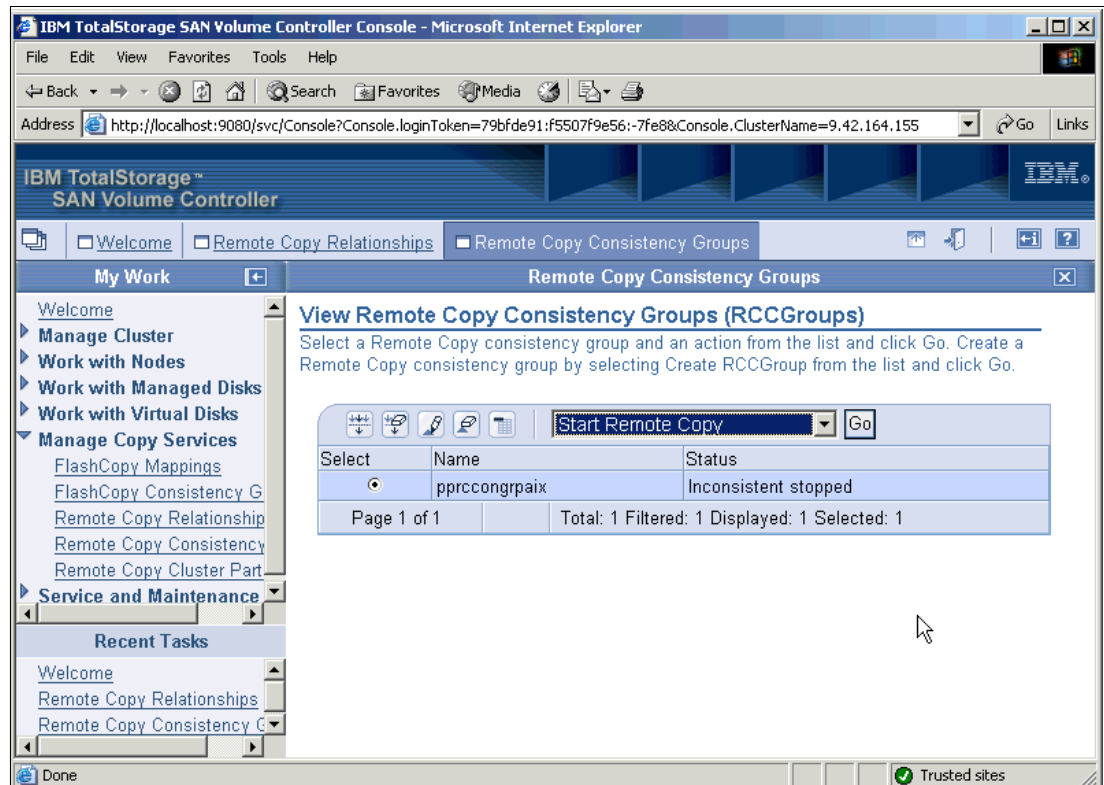

Figure 11-28 Starting PPRC consistency group pprcongrpaix
1. As shown in Figure 11-28, under My Work, select **Manage Copy Services** and select **Remote Copy Consistency Groups**.